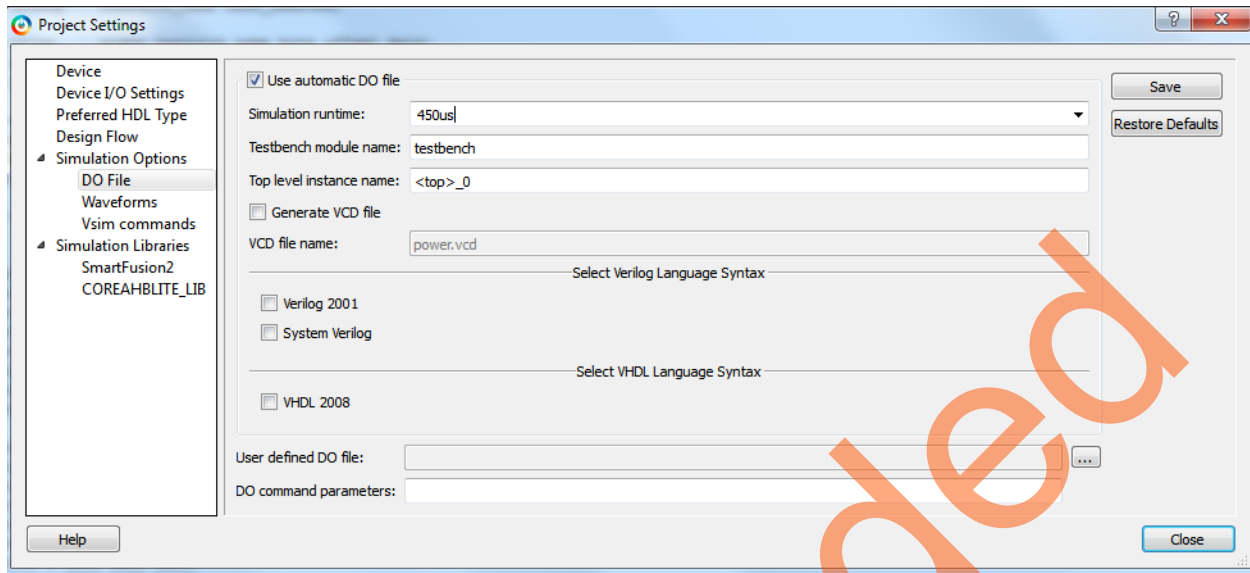

Figure 46 • Project Setting – Do File Simulation Runtime Setting
4. Select **Do File** under **Simulation Options** in the Project Settings window. Change the **Simulation runtime** to 450us, as shown in Figure 46 on page 45.